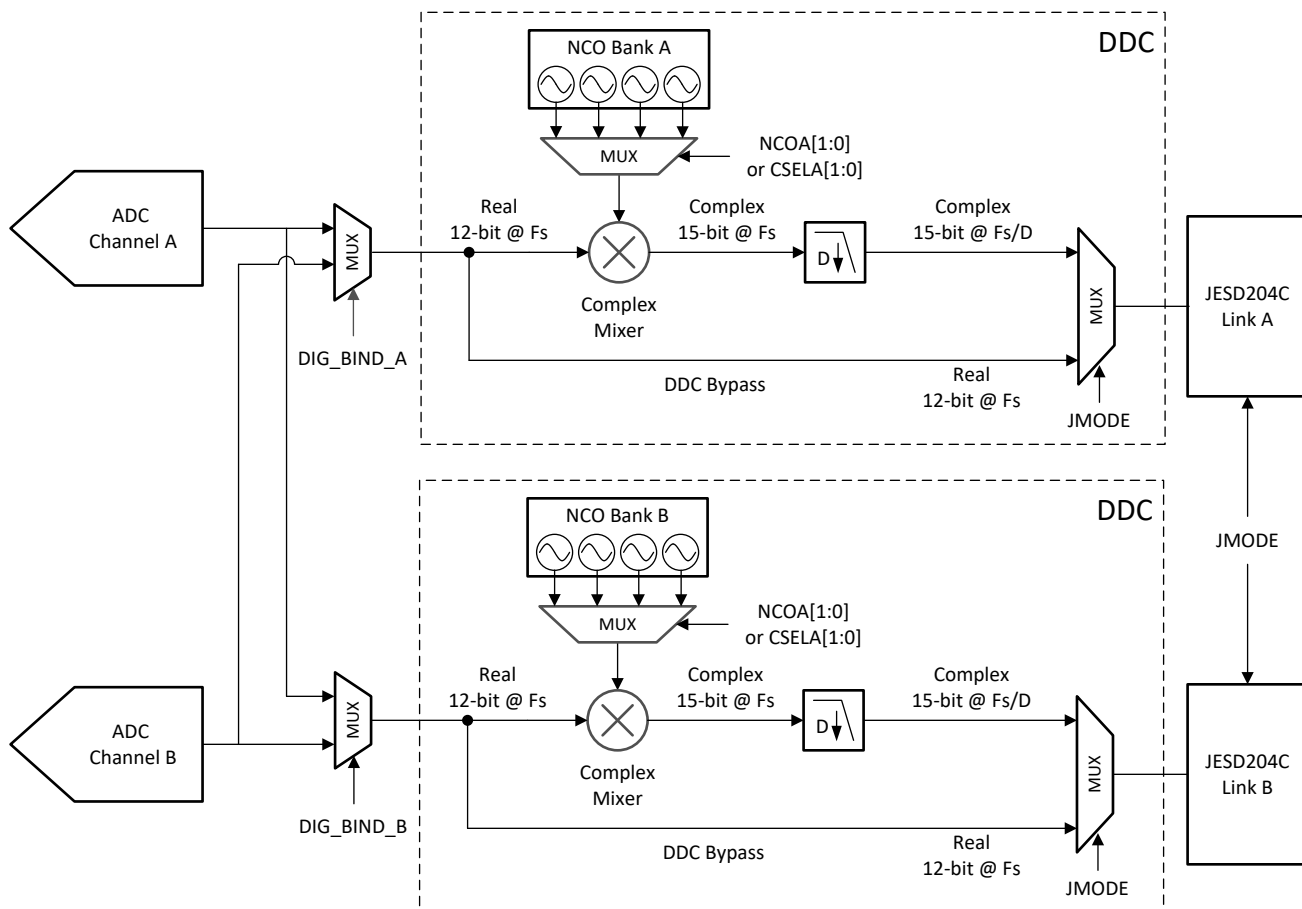
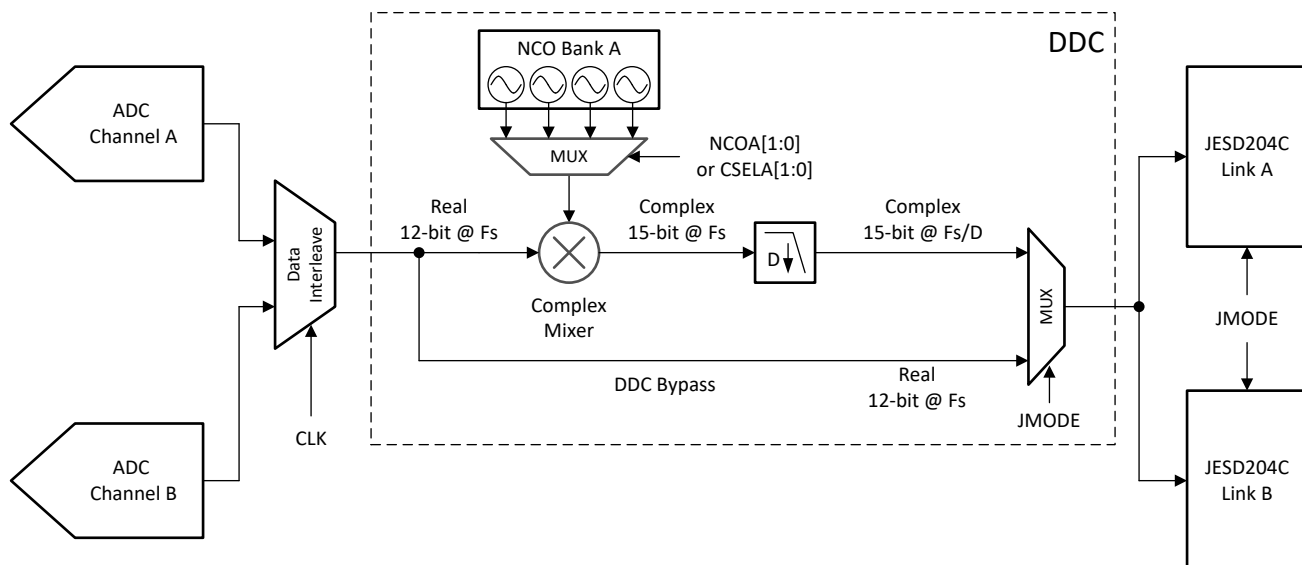

Figure 6-8. Digital Down Conversion Block in Dual Channel Mode
Figure 6-9. Digital Down Conversion Block in Single Channel Mode
After converting the analog voltage to a digital value, the digitized sample can either be sent directly to the JESD204C interface block (DDC bypass) or sent to the digital down converter (DDC) block for frequency conversion and decimation. The DDC block can be used in both dual channel mode and single channel mode. Frequency conversion and decimation allows a specific frequency band to be selected and reduces the amount of data sent over the data interface. The DDC first mixes the desired band to complex baseband (0 Hz) by performing a complex mixing operation using the numerically-controlled oscillator (NCO) as the local oscillator (LO). The DDC then low-pass filters the baseband signal to remove unwanted frequency images and any signals that may potentially alias into the desired band. It finally decimates (down samples) the data to reduce the data rate. Note that the filtering and decimation operations are actually performed as a single operation in the device. The DDC is designed with sufficient precision such that the digital processing does not degrade the noise spectral density (NSD) performance of the ADC. Figure 6-8 illustrates the DDC block in the device in dual channel mode while Figure 6-9 shows the DDC block of the device in single channel mode. In dual channel mode, the input data for each DDC can be selected to come from either ADC channel A or ADC channel B by using the DIG_BIND_x SPI registers. Channel B has the same structure with the input data selected by DIG_BIND_B and the NCO selection mux controlled by pins NCOB[1:0] or through CSELB[1:0]. Only one DDC is available for use in single channel mode.